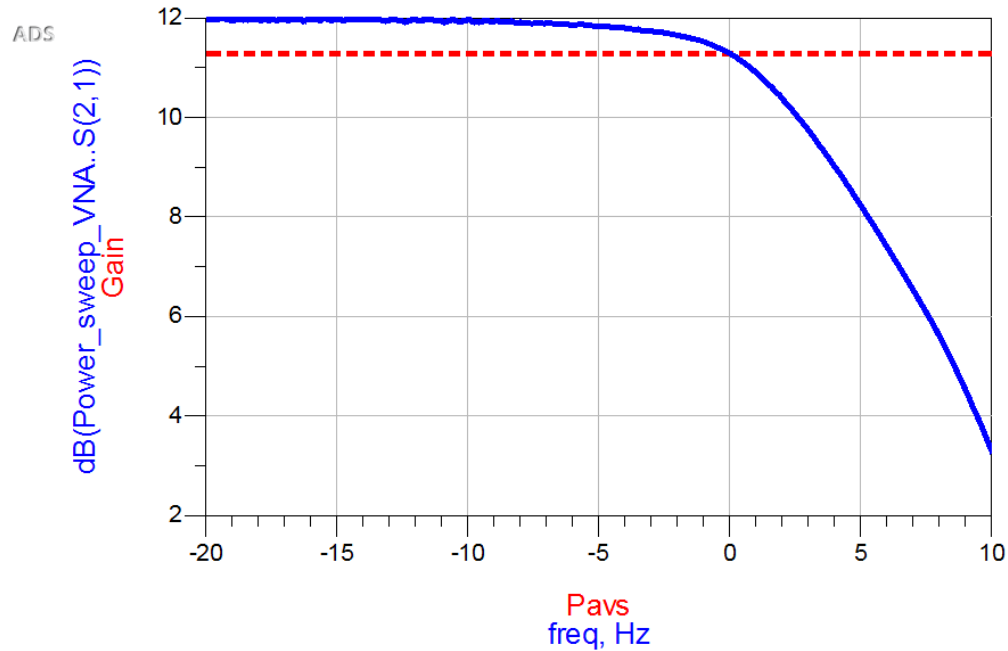

Figure 7: A Comparison Between Small and Large Signal Measurement
4. Your plot should look similar to Figure 7. Now, clearly, amplifier gain of small signal S-parameters measurement is linear throughout the sweeping power range; however, amplifier gain starts to compress at -5 dBm in the large signal power sweep measurement. This phenomenon is due to the nonlinearity nature of power amplifier. Therefore, to characterize the behavior of power amplifier, especially at relatively high input/output power, a S-parameters model is not enough. In next lab, we will introduce another parameter called *X-parameters*, which is a large signal parameter meant to characterize nonlinearity.